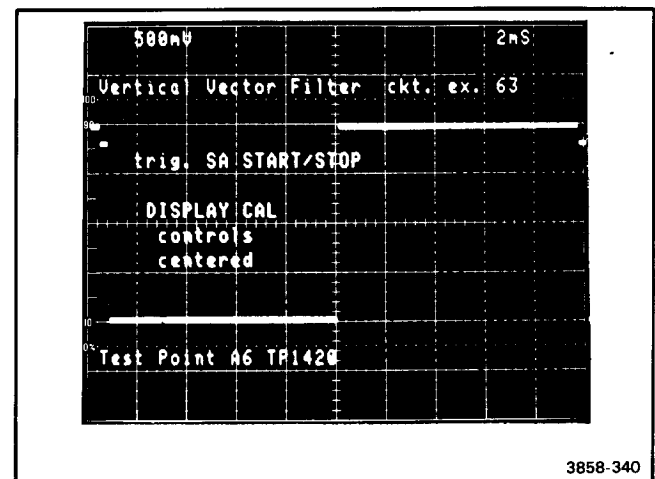

Figure 3-20. Waveform for Vertical Vector Filter test.
- 36) Vertical Vector Filter (63). If this test fails, place the Display Board on an extender and run circuit exercise 63. Use an oscilloscope to troubleshoot the Vertical Vector Filter. Waveform Figure 3-20 is a typical output of this test. The SA Start/Stop line provides a stable oscilloscope trigger while using this test for troubleshooting.